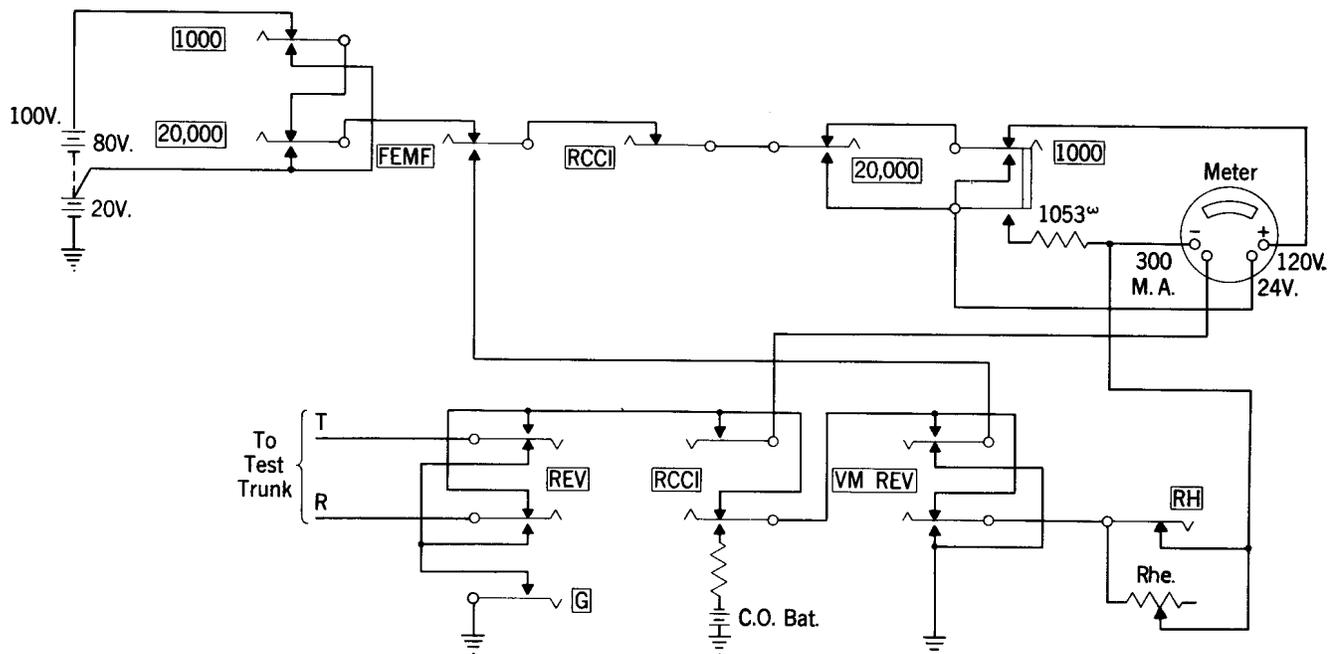

Fig. 4—Test Connections With Volt-Milliammeter
**5.02** To check the 100-volt test battery operate the VM REV key (see Fig. 4). The meter should indicate a voltage between 99 and 101 volts. If only five batteries are in use, add the sixth when required. To check the 20-volt tap operate the 20,000 and the VM REV keys. The voltage should not be greater than 21 volts. Restore the 20,000 key and operate the 1000 key. The voltage should not be less than 19 volts after 10 seconds drain. Make adjustments as required with the taps on the battery.
**5.08** With no keys operated, 100-volt battery through 100,000 ohms and the meter is connected to the ring side of the test circuit (see Fig. 4). Operate the REV key to connect to the tip side.
**5.09** The resistance measurement of a ground or a tip and ring cross is most accurate when made with the winding of the volt-milliammeter which is most nearly equal in resistance to the unknown resistance. When connection is made to the line, note the reading of the meter with the scale change and RCCI keys normal. Operate and restore successively the 20,000, 1000 and RCCI keys, noting in each case the deflection obtained (see Fig. 4). Use the connection which gives nearest to one-half the full deflection. The conditions of the test circuit are as follows:
**5.13** To determine whether a potential exists on a circuit, operate the FEMF key, which connects the test circuit through the meter to ground instead of to the test battery (see Fig. 4). If the foreign potential is negative the voltmeter needle will be deflected to the right. If it is positive, the needle will tend to deflect to the left of zero. In this case, operate the VM REV key to reverse the connections of the voltmeter to obtain a reading to the right of zero. The 20,000 and 1000 keys can also be used with the FEMF key for foreign potentials of less than 24 volts.